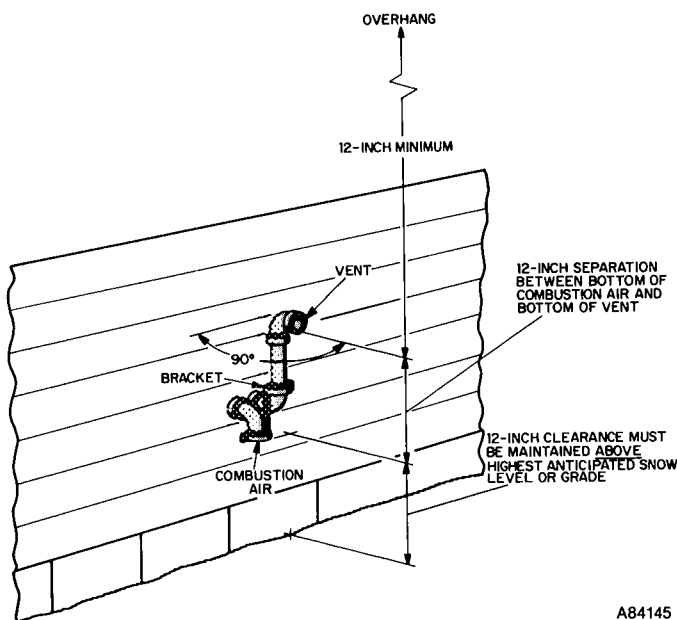
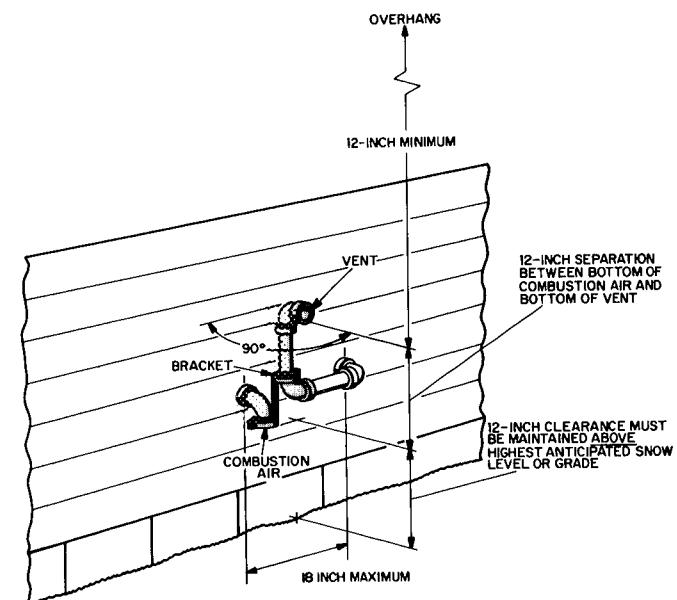

Fig. 4—Sidewall Termination Above Snow Level or Grade (Preferred)
Fig. 5—Sidewall Termination Above Snow Level or Grade (Option)
2. Sidewall terminal installation when combustion-air and vent pipes exit through sidewall 12 inches or more above highest anticipated snow level or grade. See Fig.4 and 5.
NOTE: The arrangement in Fig. 4 is preferred. The arrangement in Fig. 5 is an option for the vent pipe only.
- c. Install elbows as shown in Figs 4 or 5 using same procedures for cementing as used for system piping.
- d. Install bracket as shown in Fig. 4 or 5.
- e. Position vent pipe assembly so as to maintain 12-inch separation between vent pipe outlet and combustion-air inlet. Cement vent pipe in elbow as shown in Fig. 4 or 5.
- f. For applications using vent pipe option as shown in Fig. 5, rotate vent elbow 90 degrees from position shown in Fig. 4.